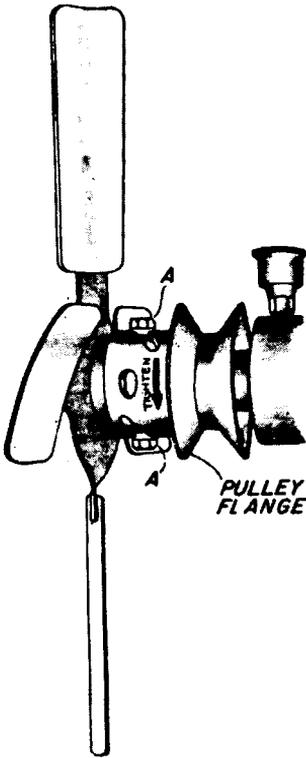

Fig. 45
See Fig. 45. To remove the fan belt, loosen the screws (A) in the flange on the fan pulley and unscrew the flange as far as possible. Start the belt over the outer flange of the lower pulley and pry it out with a light bar or rod. Slowly crank the engine at the same time and the belt will work off the pulley. After the belt is off the pulley, remove the starting crank. The belt can then be worked over the top of the fan blades.
Adjust the tension of the fan belt by changing the width of the groove in the fan pulley. To change the width of the pulley groove loosen the set screws (A) (Fig. 45) then screw the pulley flange in toward the belt to tighten it and out to loosen it. Retighten the set screws (A) after the correct tension is obtained.